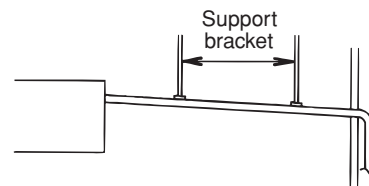

Fig. 3-44
- Do not apply force to the piping on the unit side when connecting the drain pipe. The pipe should not be allowed to hang unsupported from its connection to the unit. Fasten the pipe to a wall, frame, or other support as close to the unit as possible. (Fig. 3-44)